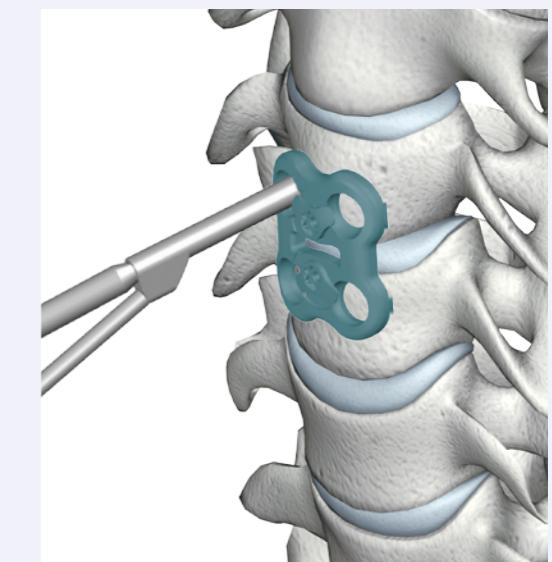

Figure 10
- Attach the desired drill bit onto the AO I-Handle or power drill. Advance the drill bit through the drill guide until the shelf of the drill contacts the guide (Figure 10). The Pinehurst Anterior Cervical Plate System provides both self-drilling and self-tapping screws.